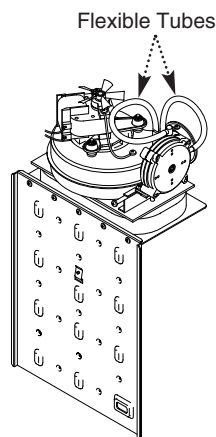

Fig. 123
4. Fit new pressure switch and re-assemble all components ensuring that the flexible tubes from the fan unit to the pressure switch are routed correctly and that they are not kinked or flattened (Fig. 123). Ensure that the electrical terminals are connected to their correspondingly marked tags.